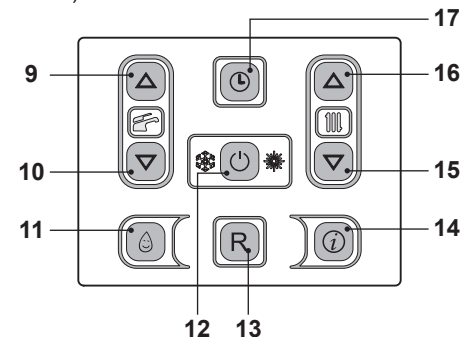
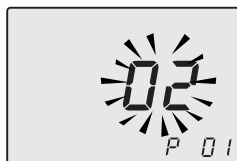

Fig. 7.20
Fig. 7.21
keys 12 - 15 - 16 (Fig. 7.20) for 10 seconds at the same time until the letters **P01** are displayed on the LCD display, indicating that "parameter 01, has been activated (Fig. 7.21).
- By pressing key 12 (Fig. 7.20) confirmation of the inserted value is obtained.
- Press keys 15 or 16 (Fig. 7.20) to exit without changing the value Fig. 7.22)
However, if the ambient temperature is not comfortable, the flow temperature of the heating plant can be increased or reduced by  $\pm 15^{\circ}\text{C}$  by acting on keys 15 (reduce) and 16 (increase) (Fig. 7.20).